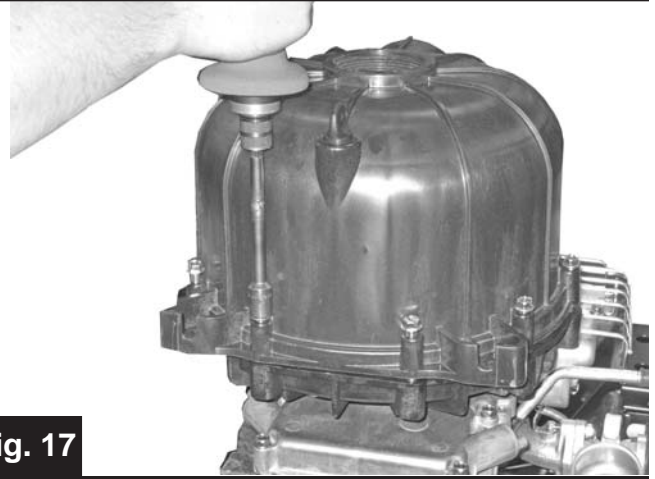

Fig. 17
13) Tighten the screws in a *clockwise* rotation around the pump (Fig. 17). Start at the screw just to the left of the drain plug (Ref. #23). Tightening in this sequence helps prevent pinching the check valve and body o-ring.